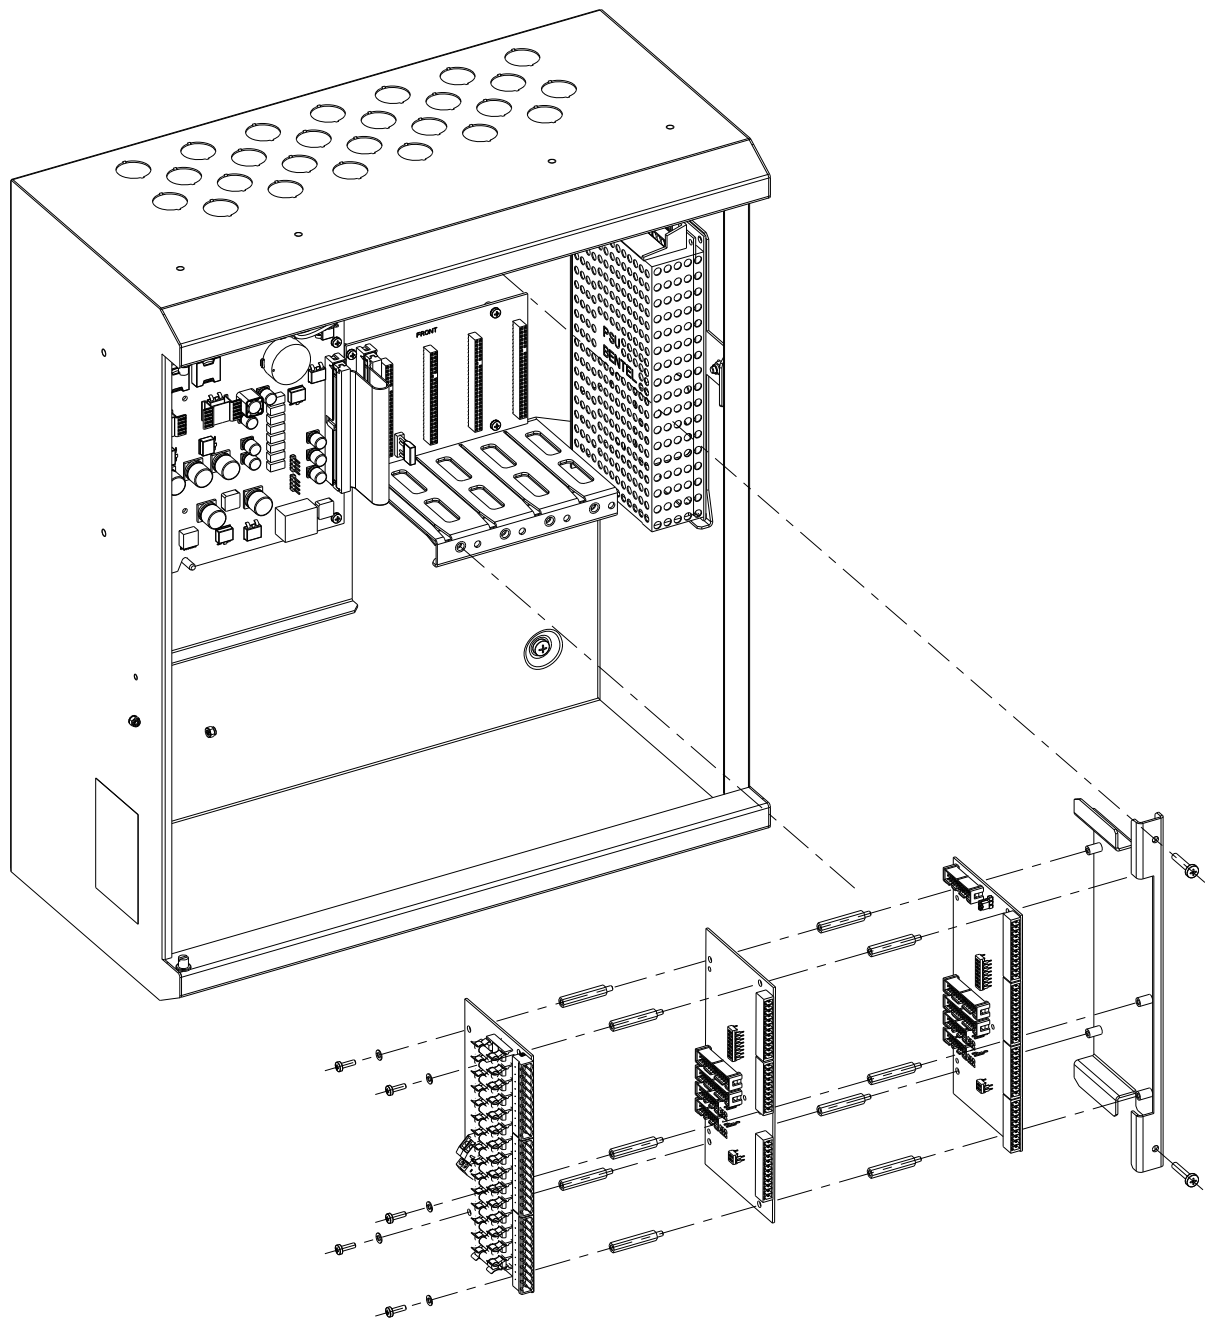

Fig. 31: FB800 and IOB800 - Fitting to Backplane Cage
- 1 Assemble the layers of units with the mounting bracket, as shown in Fig. 31. Use the layer positions you determined in the section "Decide on a Layer Order". Use the provided stand-off pillars.
- 2 Fix the assembly into the slot card cage as shown in Fig. 31.